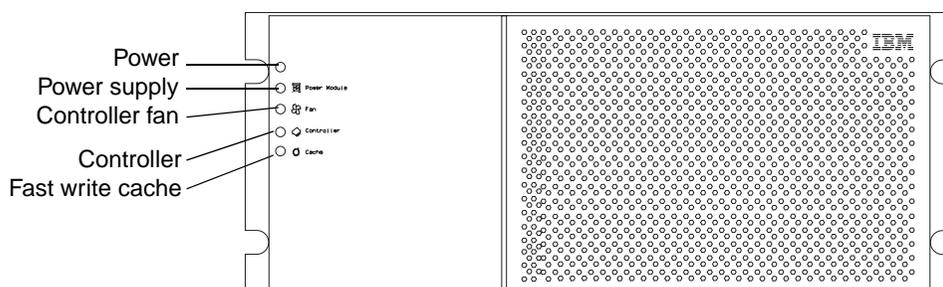

Figure 17. Indicator lights on the controller unit bezel
- 5 Using Figure 17 as a guide, check the controller indicator lights.